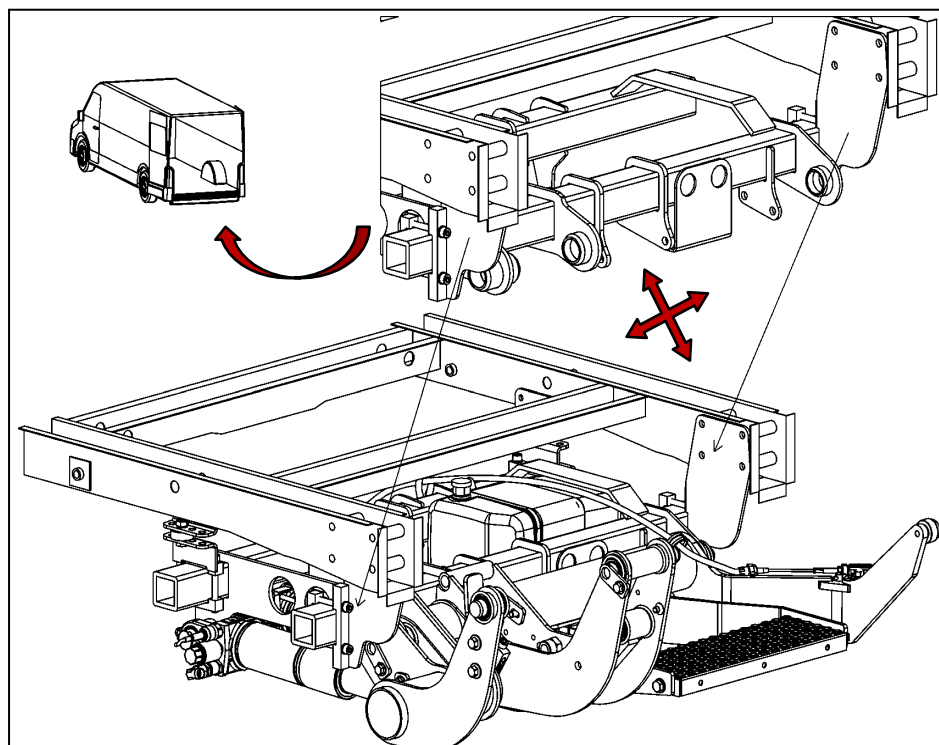

Figure 28
- Line up the installation adapters on the lifting gear with the manufacturer's holes in the vehicle chassis (see Fig. 28).